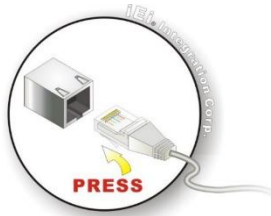

Figure 3-13: LAN Connection
Step 1: **Locate the RJ-45 connectors.** The locations of the RJ-45 connectors are shown in **Figure 3-13**